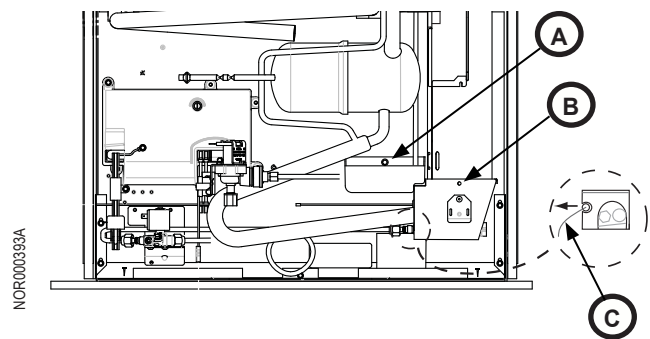

Fig. 6 - Burner Area
1. Remove screw holding drip cup (Fig.6,A).
2. Remove screw holding burner cover (Fig.6,B). Remove cover.
3. Pull igniter wire (Fig.6,C) through grommet. Lay cover aside.